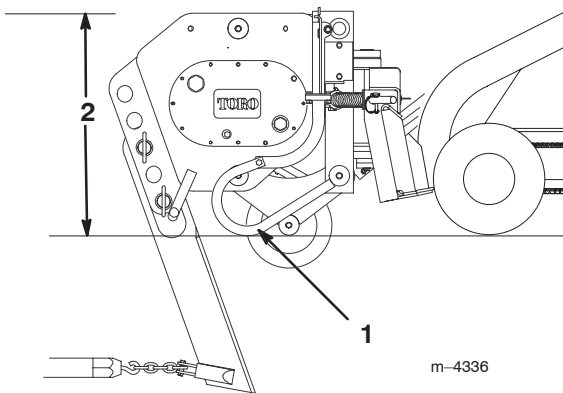

Figure 6
5. Tilt the attachment plate completely back so that the top of the plow is parallel to the ground (Fig. 6)